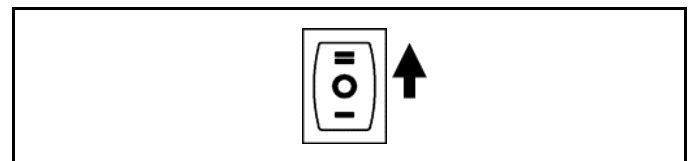

Figure 2: Slide to REMOTE mode
- Slide the ON/OFF/REMOTE slide switch from OFF to REMOTE mode. (see Figure 2).